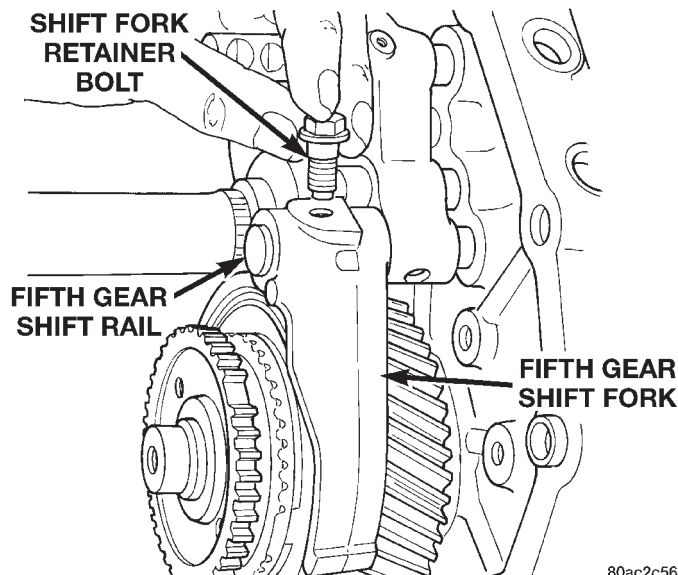

Fig. 95 Install Fifth Gear Retainer Bolt
(45) Position the fifth gear blocker ring onto the countershaft.
(46) Using a suitable mallet and spacer, tap the fifth gear blocker ring onto the countershaft.
(47) Install new bolt to hold fifth gear shift fork to the fifth gear shift rail (Fig. 95).